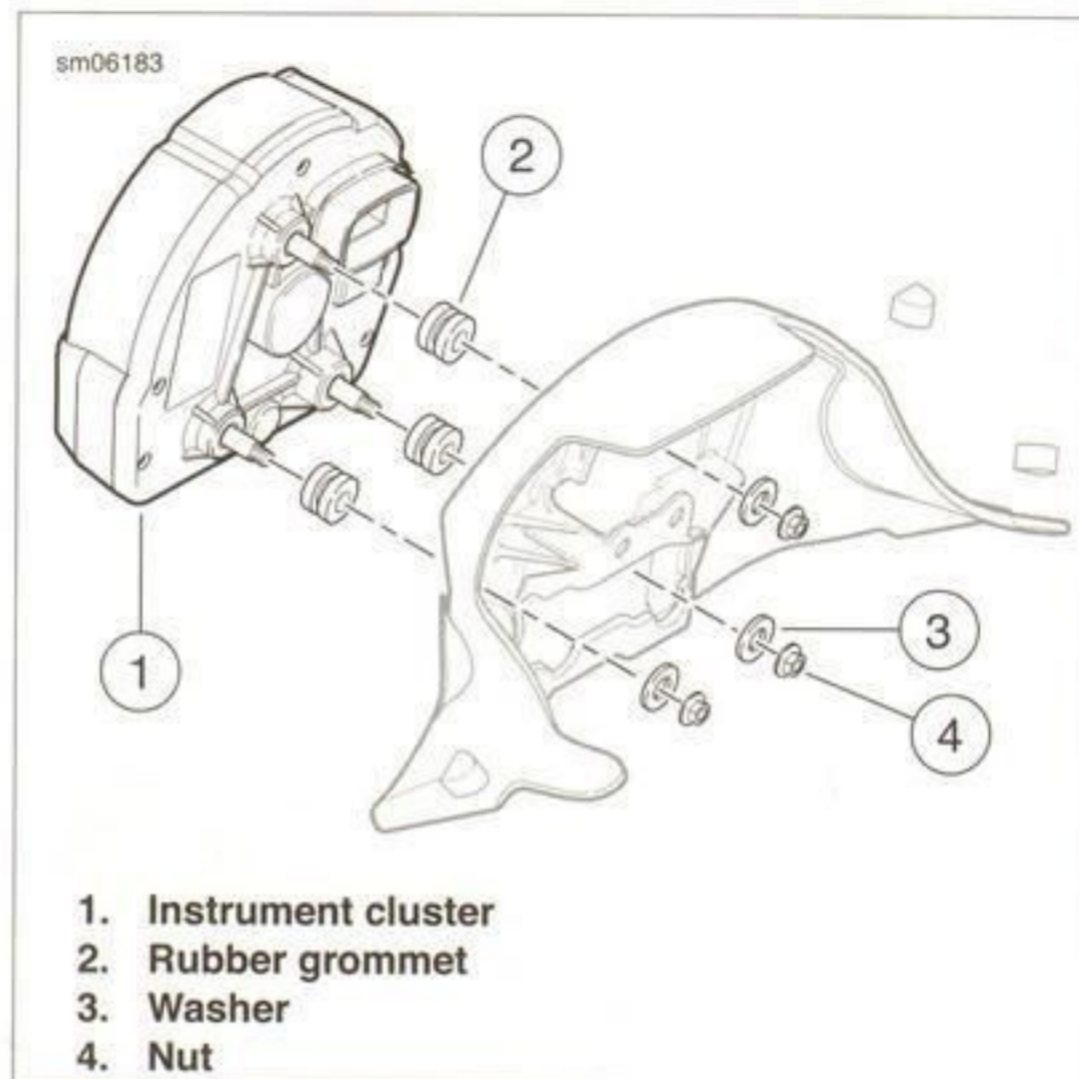

Figure 7-107. Instrument Cluster: 1125CR
7. See Figure 7-107. To install the instrument cluster, verify that the rubber grommets are in place in the dash and push the cluster studs through the grommets.